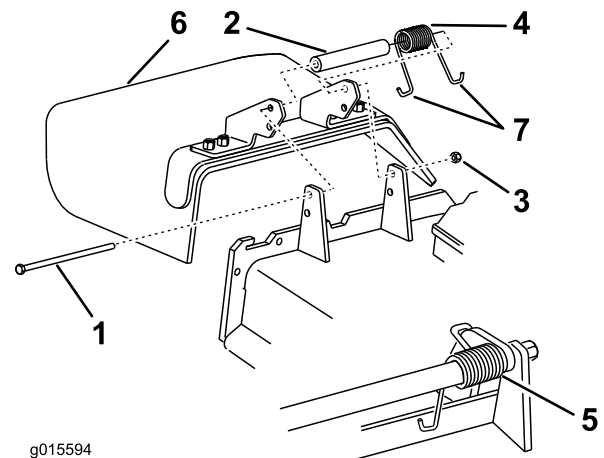

Figure 102
1. Remove the locknut, the bolt, the spring, and the spacer holding the deflector to the pivot brackets (Figure 102).
2. Remove the damaged or worn grass deflector (Figure 102).
Note: Make sure one **J** end of the spring is installed behind the deck edge before installing the bolt as shown in Figure 102.
6. Place one **J** hook end of the spring around the grass deflector (Figure 102).